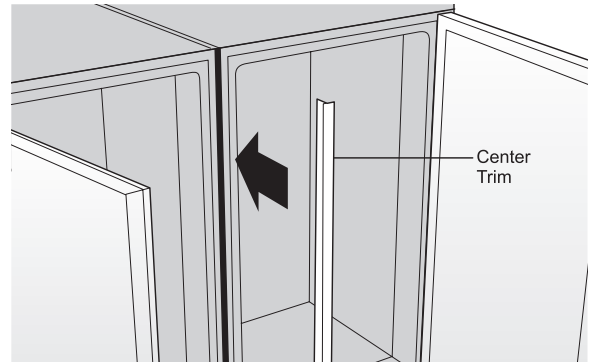

Figure 17
- Place a carpenter's level vertically on the front of the door and level so that the front surface of door is vertical. Re-check to make sure top front edge of door is still at a height of 69-3/8". Adjust as necessary. See Figures 17 and 18.
- Re-check the level of each unit. Depending on the flatness of your floor, you may need to readjust several times before achieving an acceptable state of levelness and alignment. Allow 3/8" gap between units for center trim (E or F). See Figure 17.